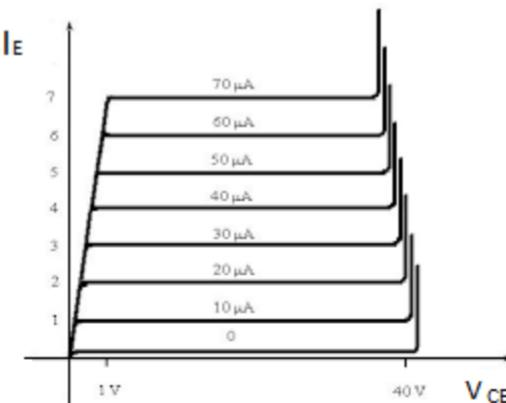

Fig. 19. Output characteristics of Common Collector Configuration
- ✓ The plot of V_{CE} vs. I_E constitutes the output characteristics. For plotting the output characteristics, the emitter current I_E is kept constant and is shown in figure 19.